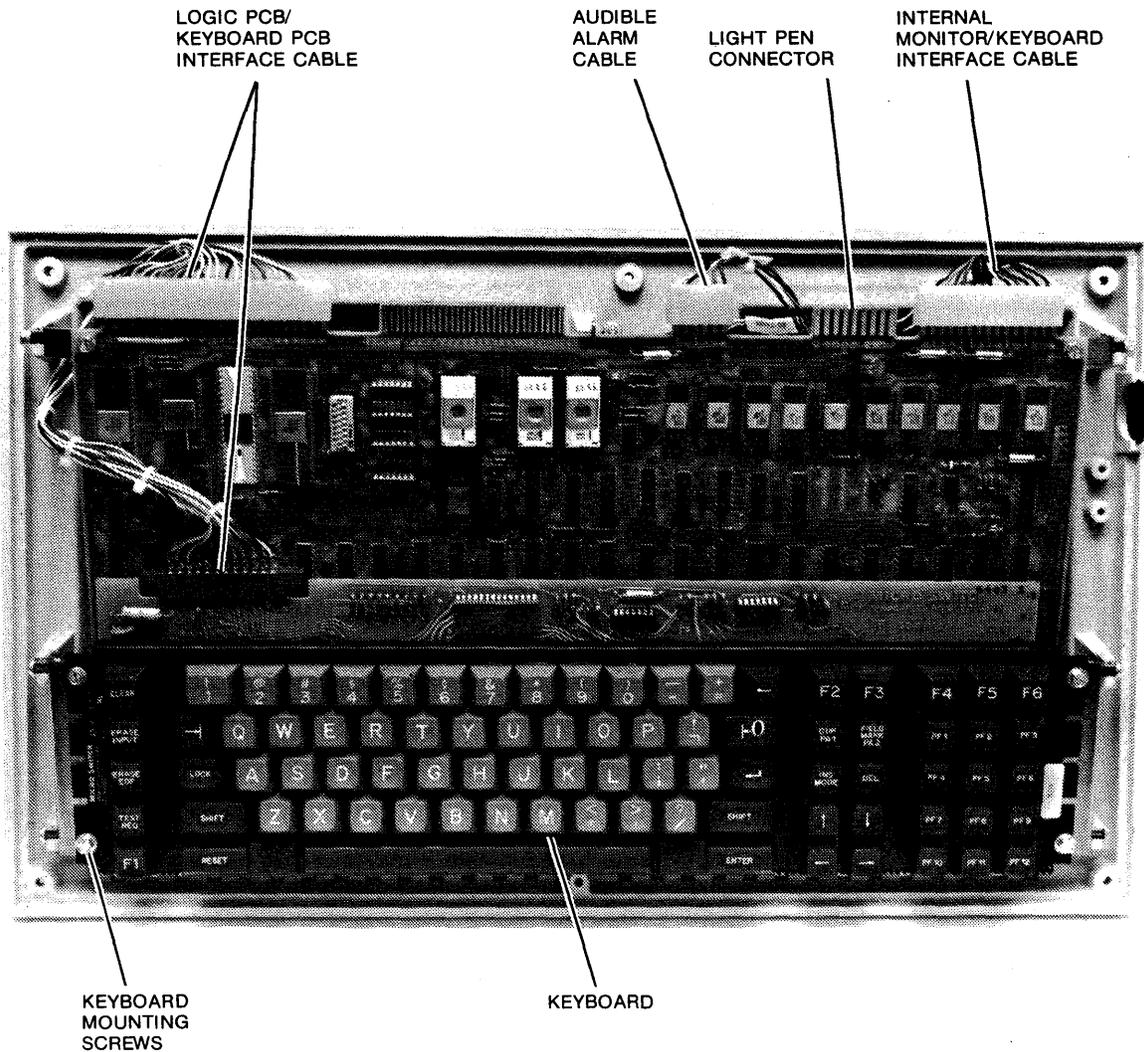

FIGURE 4-5. CABLE DISCONNECT AND PCB REMOVAL
5. Disconnect the logic PCB/keyboard PCB interface cable (two places), the Audible Alarm cable, and the internal monitor/keyboard interface cable (Figure 4-5).
6. Using a 1/4" hex driver, remove the keyboard assembly from the keyboard brackets by removing the four mounting screws (Figure 4-5).